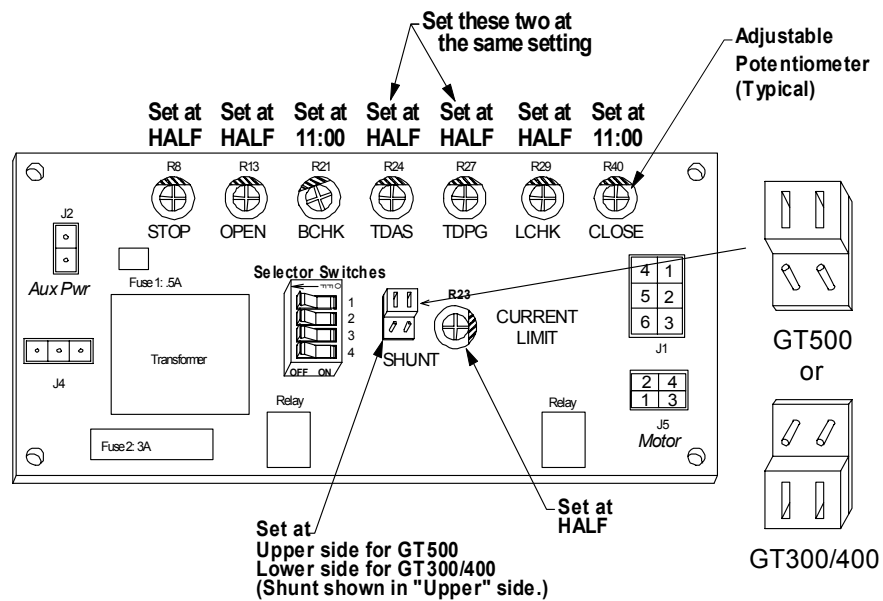

Figure 5 – Magnum Control
There are four connectors located on the control board labeled J2, J3, J4, and J5 (Figure 5). There is a re-settable fuse 1 (F1) and a replaceable fuse 2 (F2). A wiring diagram is provided at the end of this section.
**Shunt** - The 2x2 shunt provides a connection over 4 pins of a 6 pin terminal. The exposed bars in the shunt, that can be seen from the surface must be vertically oriented for the correct pins to be jumped. If the shunt is installed in a horizontal position, the door will not function properly. (See Figure 5)